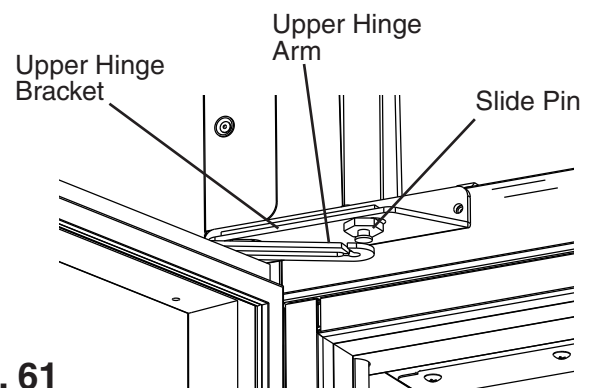

Fig. 61
- 20) Open the upper door and connect the upper hinge arm to the slide pin on the upper hinge bracket, then close the door. See Fig. 61.